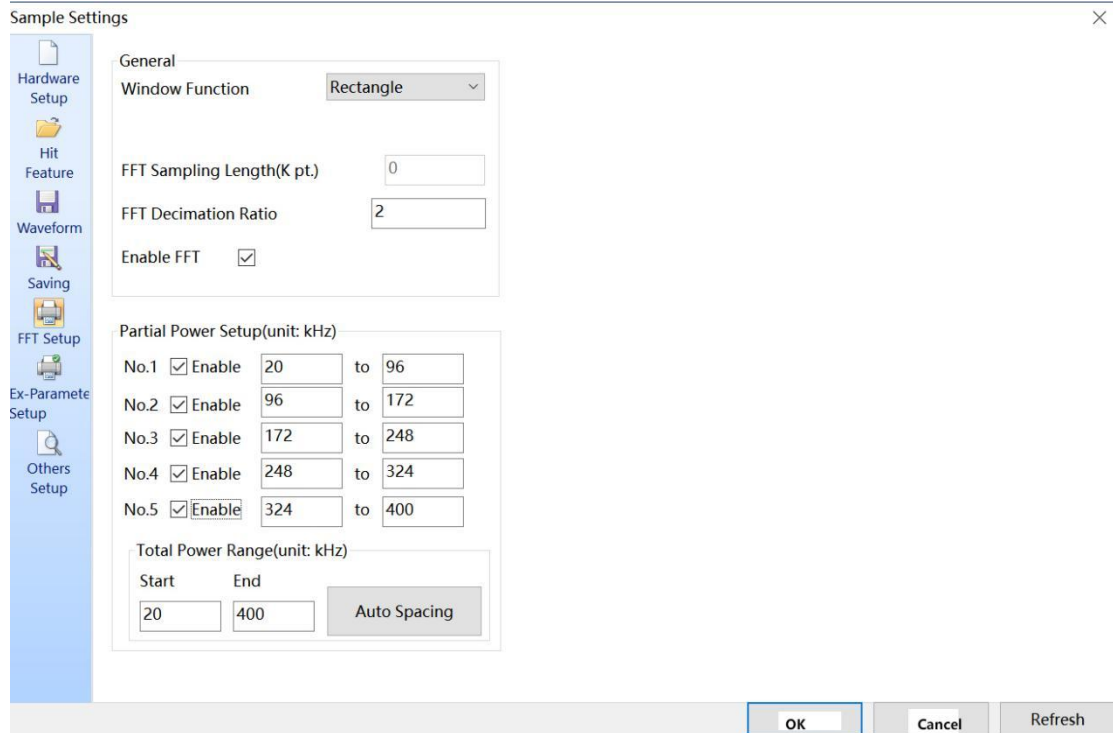

Fig. 6-24 FFT Setup Interface
**FFT Sampling decimation ratio:** the decimation ratio means that one of every few original sampling point (the sampling rate of waveform sampling) is taken for FFT calculation, as shown in Figure 6-24, which 2 means that one sample is extracted from every two original